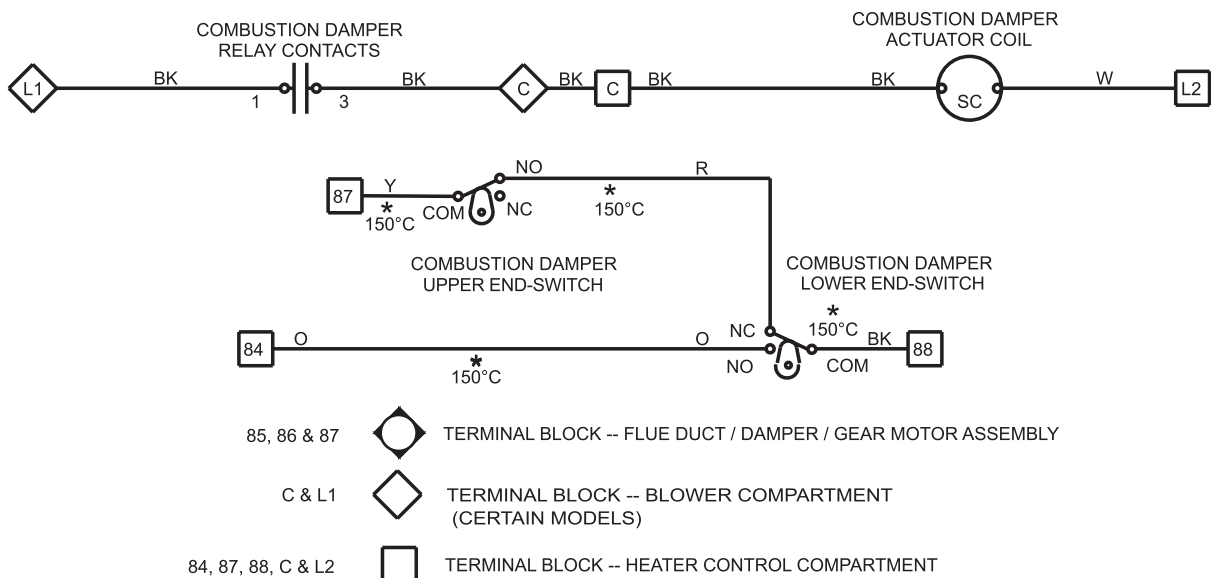

Figure 2. Typical Existing Damper Actuator Wiring Diagram
3. Disconnect wiring (see Figure 2):